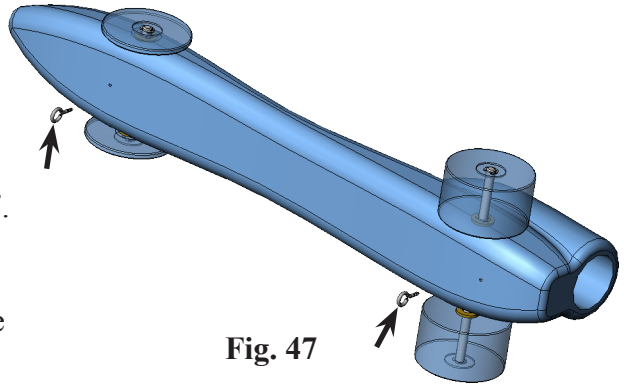

Fig. 47
Step 2. Hold down middle mouse button (wheel) and drag to **rotate** view as shown in Fig. 47.
Step 7. Insert two eye screws approximately where the eye screws are positioned in Fig. 47. Click OK  in the Property Manager when done.